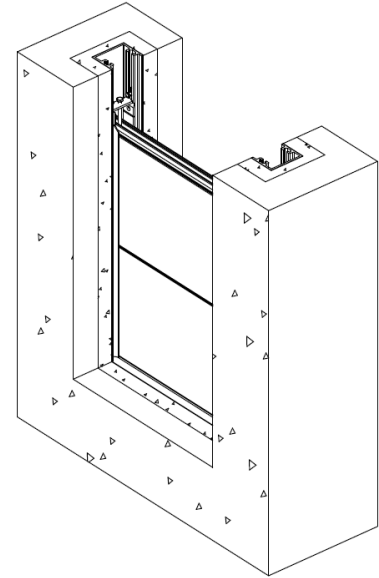

Figure 4
- Pour the second phase of concrete. Take special care not to damage the seals (see Figure 4)